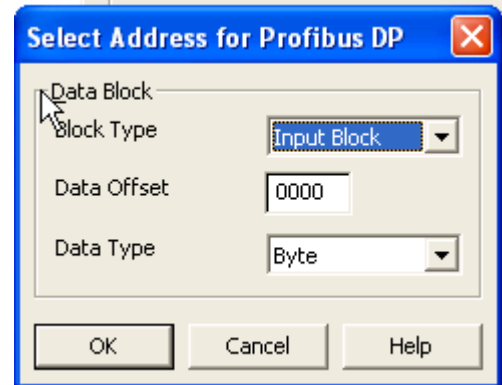

FIG. 65: Select Block Type
- Select the data offset, which points the address to read or write in the block. Select the data type to read or write. This defines how many bytes to access in the block to get the correct data. In this example we choose **output block**, with data offset **0** (Which points to 256 in the PLC) and as a **Word**. FIG. 65.